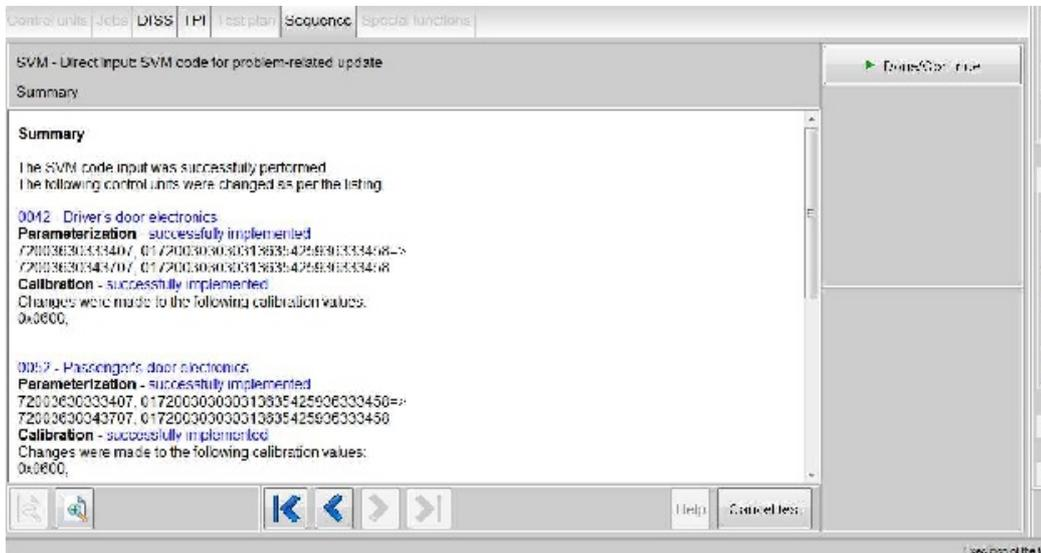

Figure 4
7. Once the update is complete the summary screen will be shown in Figure 4, this confirms completion of the required updates